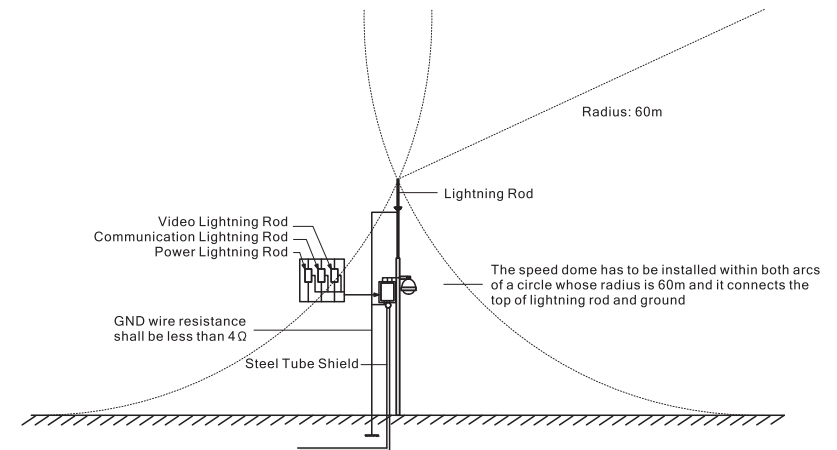

Figure 4–1
- System shall adopt equal-potential wiring. The earth device shall meet anti-jamming and at the same time conforms to your local electrical safety code. The earth device shall not short circuit to N (neutral) line of high voltage power grid or mixed with other wires. When connect the system to the earth alone, the earth resistance shall not be more than $4\ \Omega$ and earth cable cross-sectional area shall be below $25\ \text{mm}^2$. See Figure 4–1.